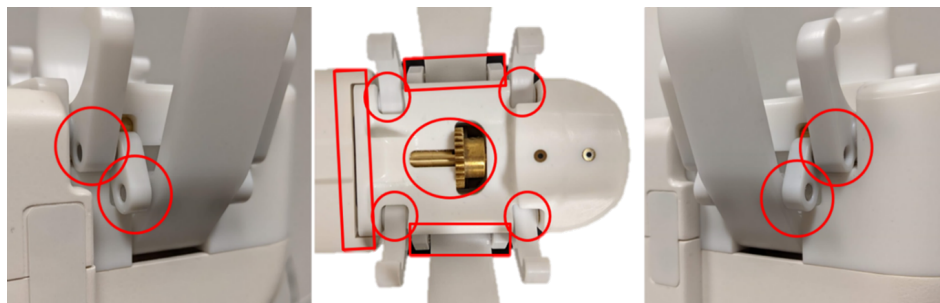

Figure 59: Areas to inspect on Positioning System
3. Repeat steps 1 and 2 as necessary until no visible soiling remains, closely inspecting the areas around the gripper arms and gear (*Figure 59*).